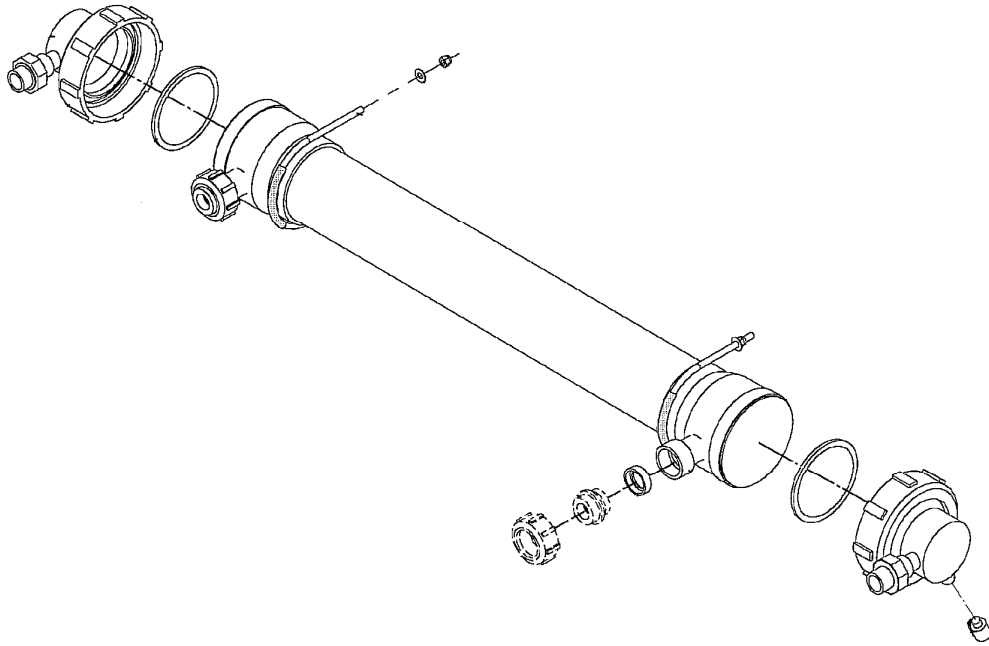

Figure 2. Cartridge Mounting Hardware.
4. Remove nuts (Figure 2, Item 7), washers (Figure 2, Item 8) and U-bolts (Figure 2, Item 9).
6. Remove the end caps (Figure 2, Item 1) by unthreading the nuts (Figure 2, Item 2).
7. Remove the O-rings (Figure 2, Item 3). Replace if damaged.
8. Remove the gasket (Figure 2, Item 4) from the filtrate port (Figure 2, Item 5). Replace if damaged.
9. Remove low point drain valve (Figure 2, Item 6) only if necessary.
2. Install gasket (Figure 2, Item 4) in the filtrate port (Figure 2, Item 5).
3. Install O-rings (Figure 2, Item 3).
4. Install end caps (Figure 2, Item 1) by tightening the nut (Figure 2, Item 2). The nut should be hand tightened all the way and then use the strap wrench to tighten it a quarter turn more.
6. Install U-bolts (Figure 2, Item 9) and fasten with nuts (Figure 2, Item 7) and washers (Figure 2, Item 8).